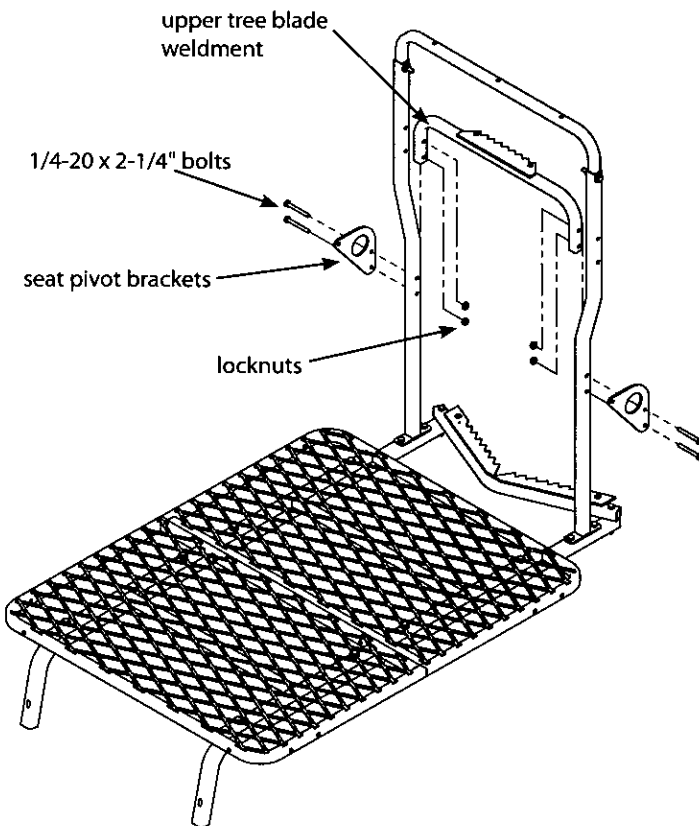

Figure 4
6. Attach the upper tree blade weldment (410004) and the (2) seat pivot brackets (410008) to the seat upright weldments using (4) provided 1/4-20 x 2-1/4" bolts and locknuts. **SEE FIGURE 4.**